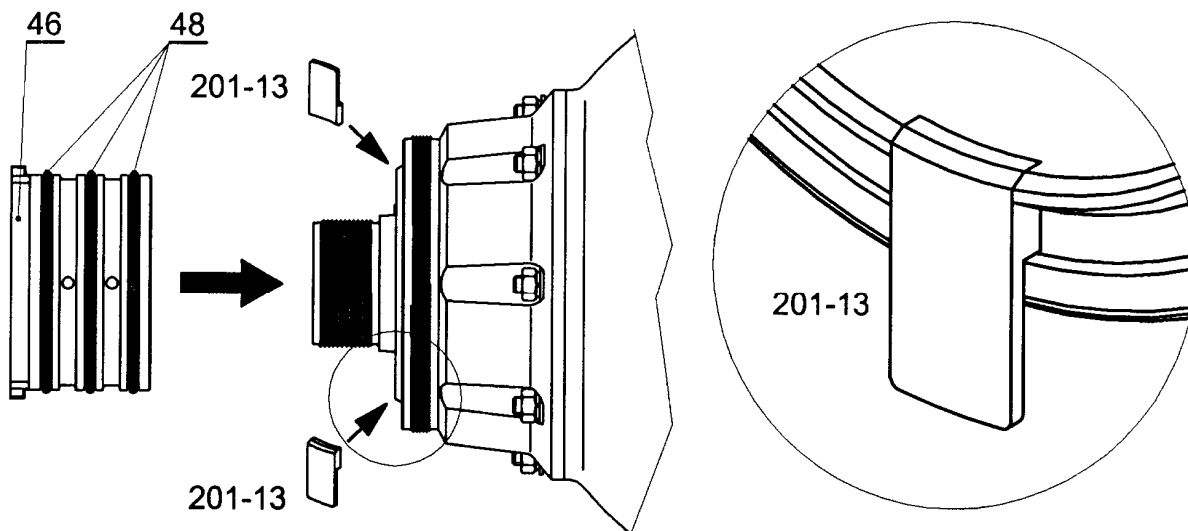

Fig.217 Floating sleeve of LUN 7902 distributor installation
- (7) Lubricate inner surface of the distributor sleeve and O-rings by the recommended oil (see tab. 203) before floating sleeve (46) with O-rings installation.
- (8) Use clamping plates (201-13) for inserting of the floating sleeve (46) to the distributor for following installation.
- (9) Insert clamping plates to the slots in the distributor (54)(see Fig. 217). Clamping plates allow inserting of the floating sleeve (46) with sealing O-rings without damage danger.